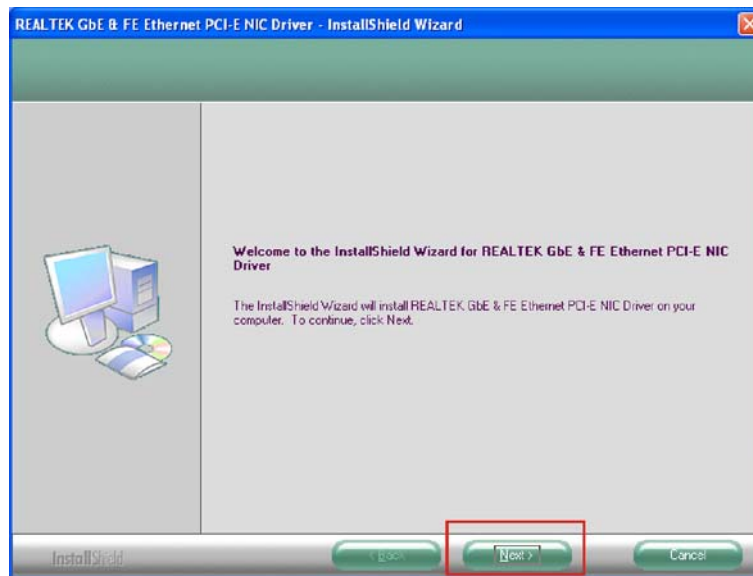

Figure 6-15: Gigabit Ethernet Driver Welcome Screen
(Figure 6-15)
Step 5: Click **NEXT** to continue the installation process (Figure 6-15).